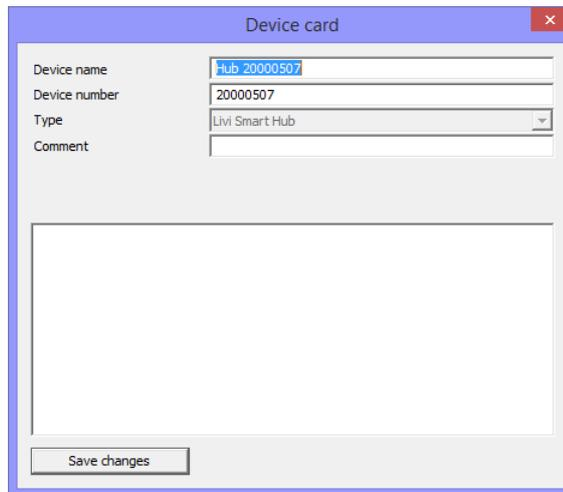

Figure 8.11 – Device card
1. Device card for the hub (see figure 8.11).